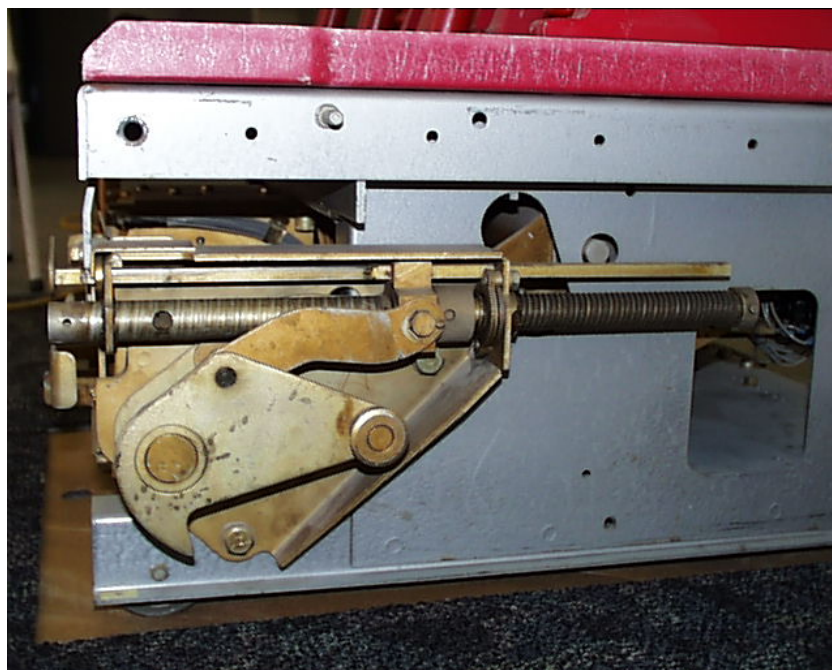

Figure 8-5 HK racking device
8.3.6 The Racking Device mounts on lower right side of the breaker and has a pivot shaft that runs the length of the breaker, left to right (Figure 8-5).